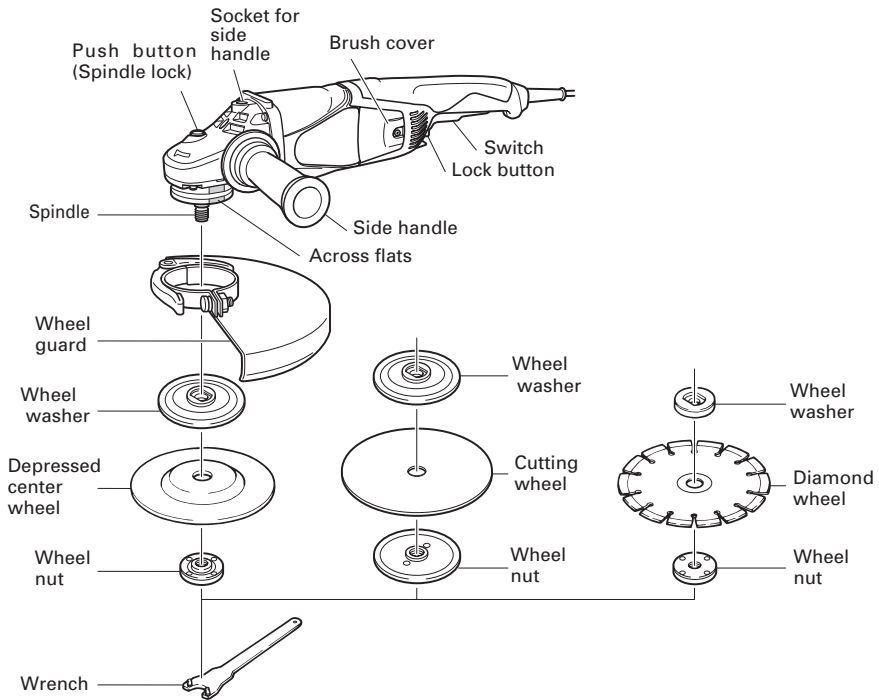

Fig. 3
Confirm that the spindle lock is disengaged by pushing push button two or three times before switching the power tool on (See Fig. 3).
1. Assembling (Fig. 3)
- (5) Insert the push button to prevent rotation of the spindle, and tighten the wheel nut with the accessory wrench, as shown in Fig. 3.